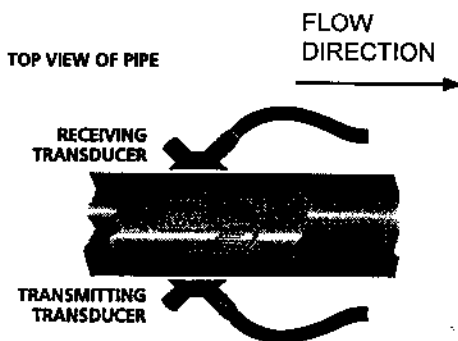

Figure 7
4. Place each transducer under the strap with the flat face positioned towards the pipe. The notch on the back of the transducer will provide a mounting surface for the strap. The transducer cables must be facing in the same direction for proper operation. See Figure 7. NOTE: Large pipes may require two people for this procedure.